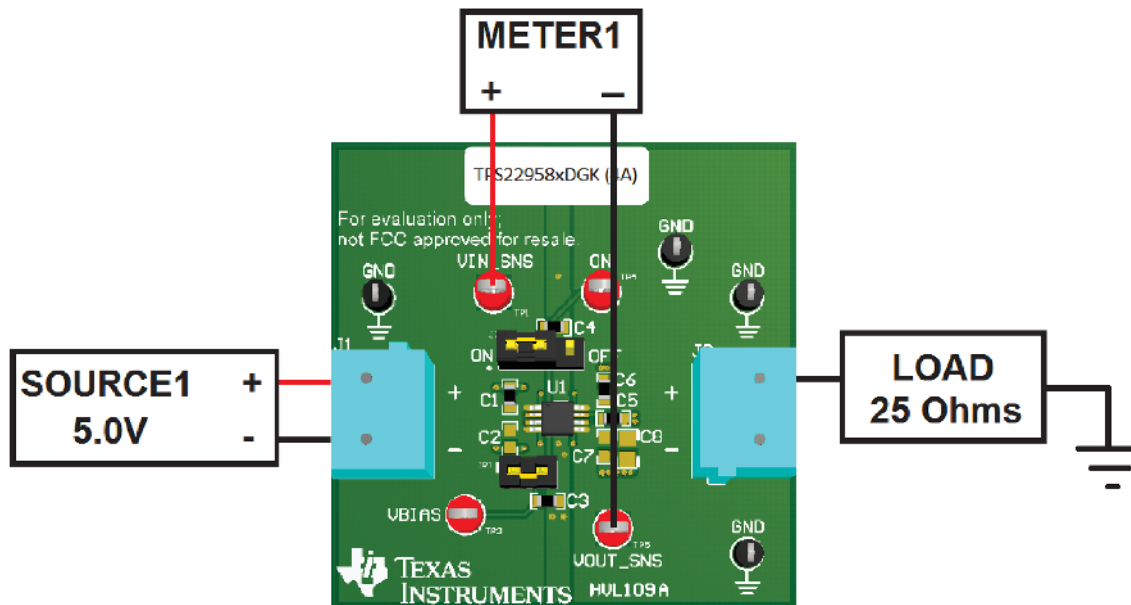

Figure 3. RON Test Setup
1. Setup the EVM per Figure 3.